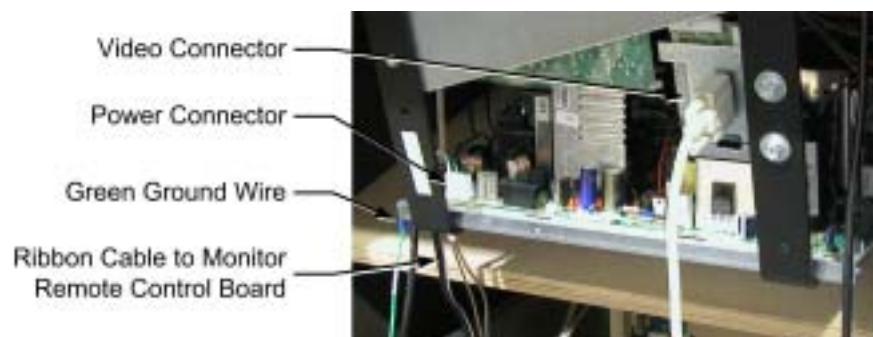

Figure 36. Cable Connections to the Monitor Chassis
2. Refer to Figure 36 and disconnect the following cables:
6. Remove the two (2) #10 x .75 wood screws that secure the monitor bezel to the top of the cabinet and remove the monitor bezel.